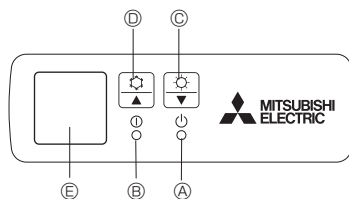

Fig. 5-1
- [Fig. 5-1] (A) DEFROST/STAND BY lamp